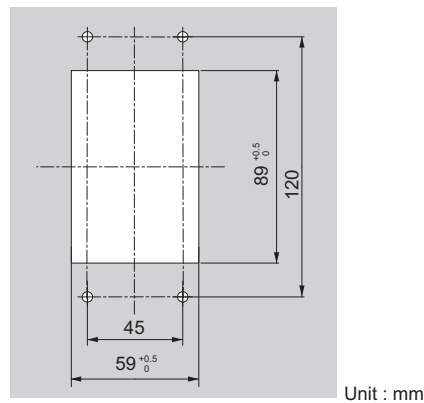

Figure 2.10 Panel Cut-Out Dimensions (Internal/Flush-Mount Installation)
1. Cut an opening in the enclosure panel for the LED monitor operator as shown in **Figure 2.10**.